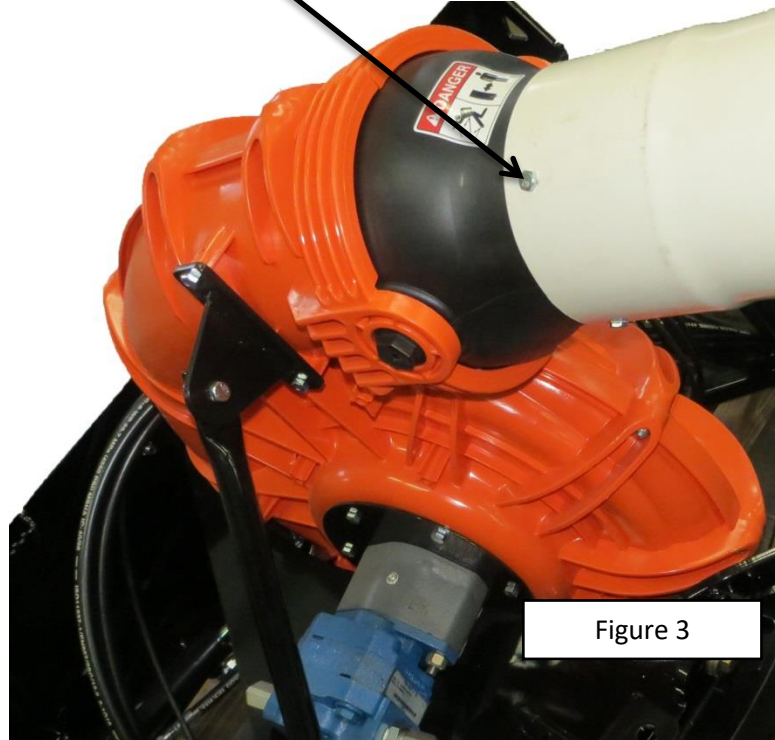

Figure 3
3. Install only one of the $\frac{1}{4}$ x 1" lags at position shown in Figure 3.